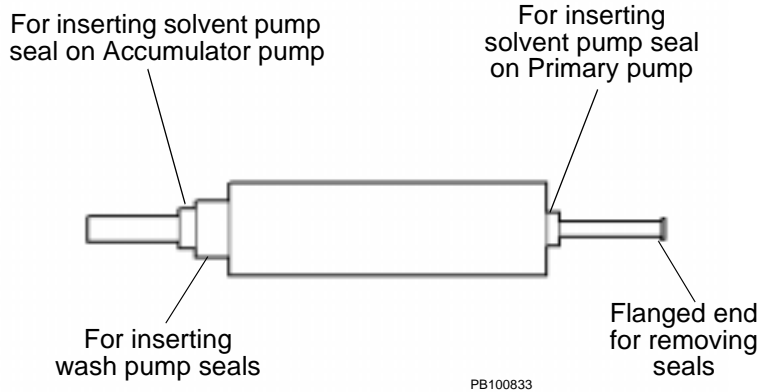
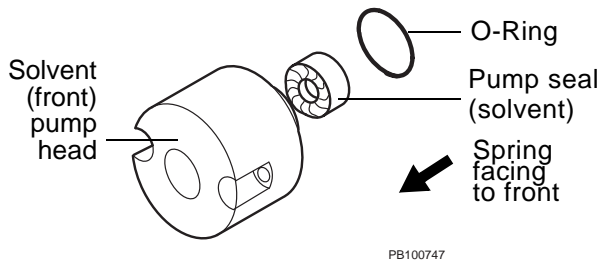
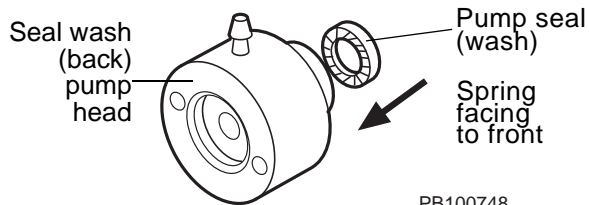

Figure 9-12 Pump Seal Removal and Insertion Tool
Figure 9-13 Replacing Solvent Pump Seal
Figure 9-14 Replacing Wash Pump Seal
1. Use the flanged end of the removal tool (Figure 9-12) in the Pump Head Seal Kit to remove the solvent pump seal from the solvent (front) pump head (Figure 9-13).
- Use the blunt end of the removal/insertion tool (Figure 9-12) to insert the new solvent pump seal with the spring in the seal facing toward the front of the pump head (Figure 9-13).
- Use the flanged end of the removal/insertion tool (Figure 9-12) in the Pump Head Seal Kit to remove the wash pump seal from the seal wash (back) pump head (Figure 9-14).